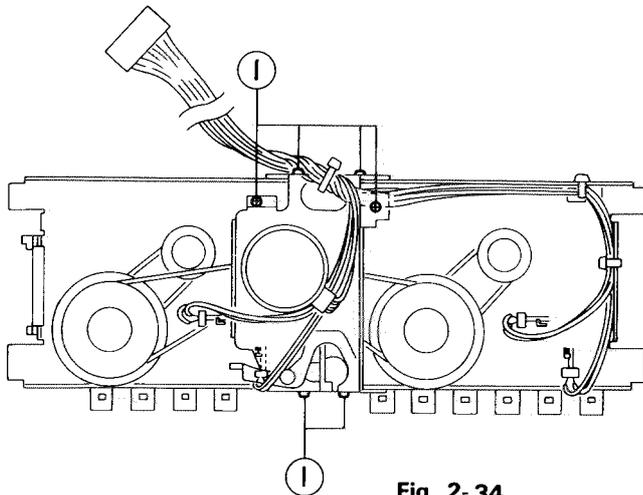
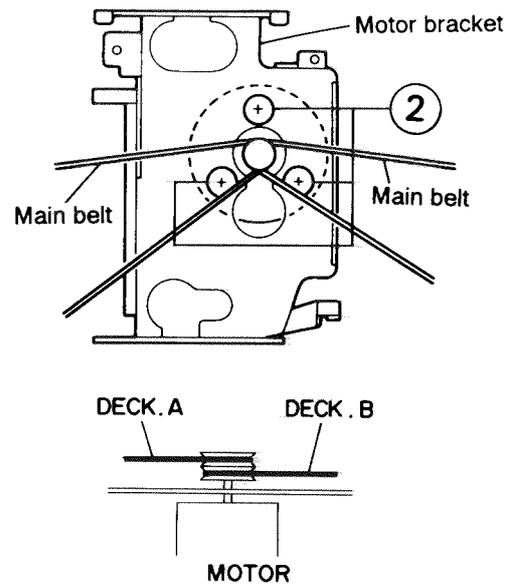
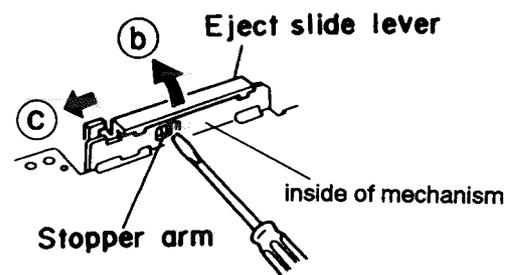

Fig. 2-34
Fig. 2-35
Fig. 2-36
■ **Capstan motor (Fig. 2-34, Fig. 2-35)**
4. Remove six screws ① retaining the motor bracket from the back of the cassette mechanism.
6. Remove six screws ② retaining the Capstan motor from the back of the cassette mechanism.
■ **Eject slide lever (Fig. 2-36)**
1. Place the cassette mechanism back side frontward and disengage the stopper arm ① of the Eject slide lever by pressing it inwards through the opening of the chassis with a small screwdriver as shown in Fig. 2-36.
2. Disengage the Eject slide lever in the direction of arrow ② .